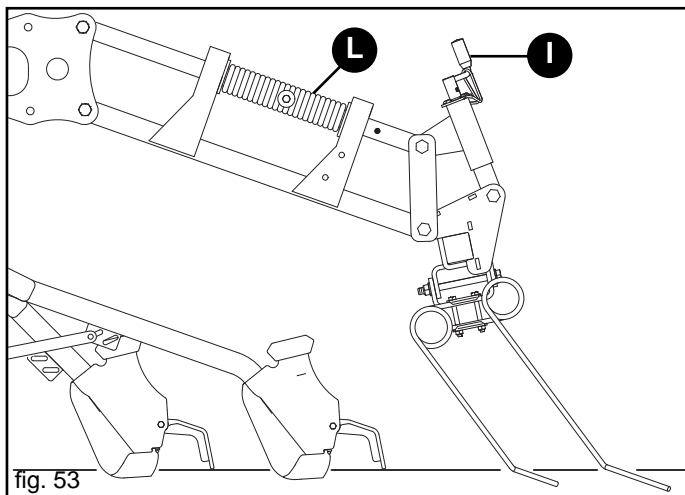

fig. 53
The normal working position of the harrow is shown in Figure 53. In this position, the wear on the teeth, between the long and the short one is even and uniform. By adjusting the regulating handle (I), it is possible to change the angle of the harrow.
The working pressure of the spring-loaded teeth can be varied by rotating the spring (L) located on the upper parallel arm (Fig. 53).